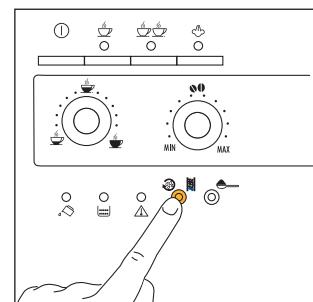

Fig.14
- 1) If, when the machine has just been turned on, a short cup of coffee is required (less than 60cc), use the hot rinsing water to pre-heat the cups (see the suggestion in par. 4.3, point 5). If, on the other hand, more than 2/3 minutes have elapsed since the last coffee was made, before preparing **another coffee the infuser must be pre-heated, pressing the  button** (Fig. 14).